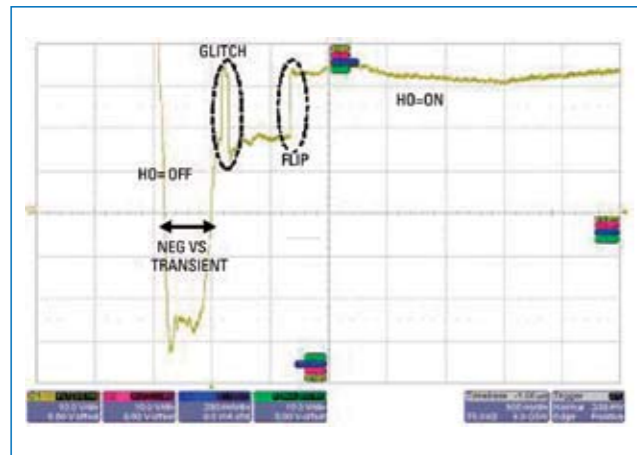

Figure 2: FLIP and GLITCH classification.
- These two phenomena can show up individually as well as together as a consequence of the same negative VS event (Fig.2).